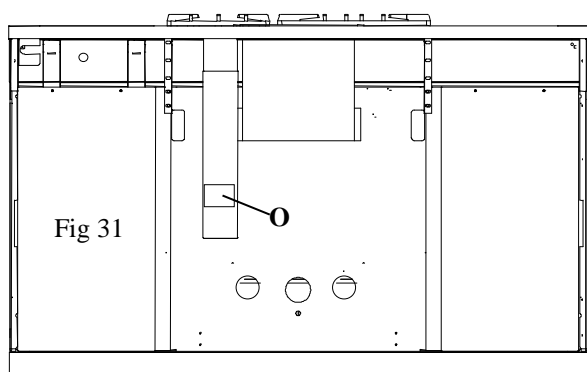
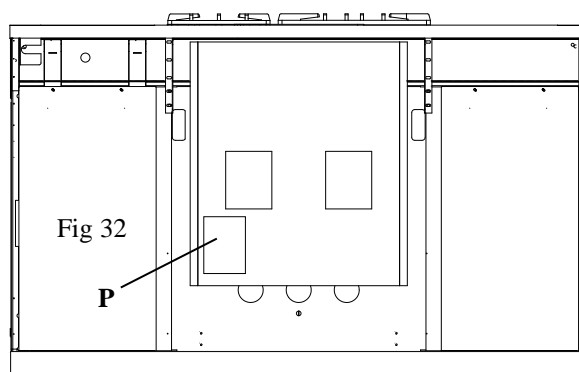

Fig 31
Fig 32
- Remove access door **O** (Figure.31, gas oven range) or **P** (Figures 32 and 33, gas and electric range).